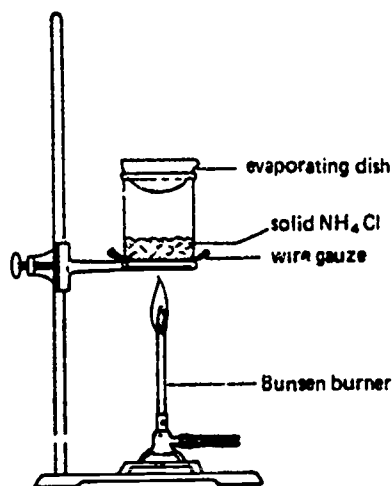

Figure 11 . Apparatus for subliming NH_4Cl
5. Evaporate the resulting solution from step 4 and recover the solid solute by the method described in step 6 of Part A and illustrated in Figure 11. Record the color of the recovered solid in Table G.4.
4. Place the 250 ml beaker containing NH_4Cl on the wire gauze of a ringstand-mounted ring. Place a clean, dry evaporating dish over the mouth of the beaker as illustrated in Figure 11 .